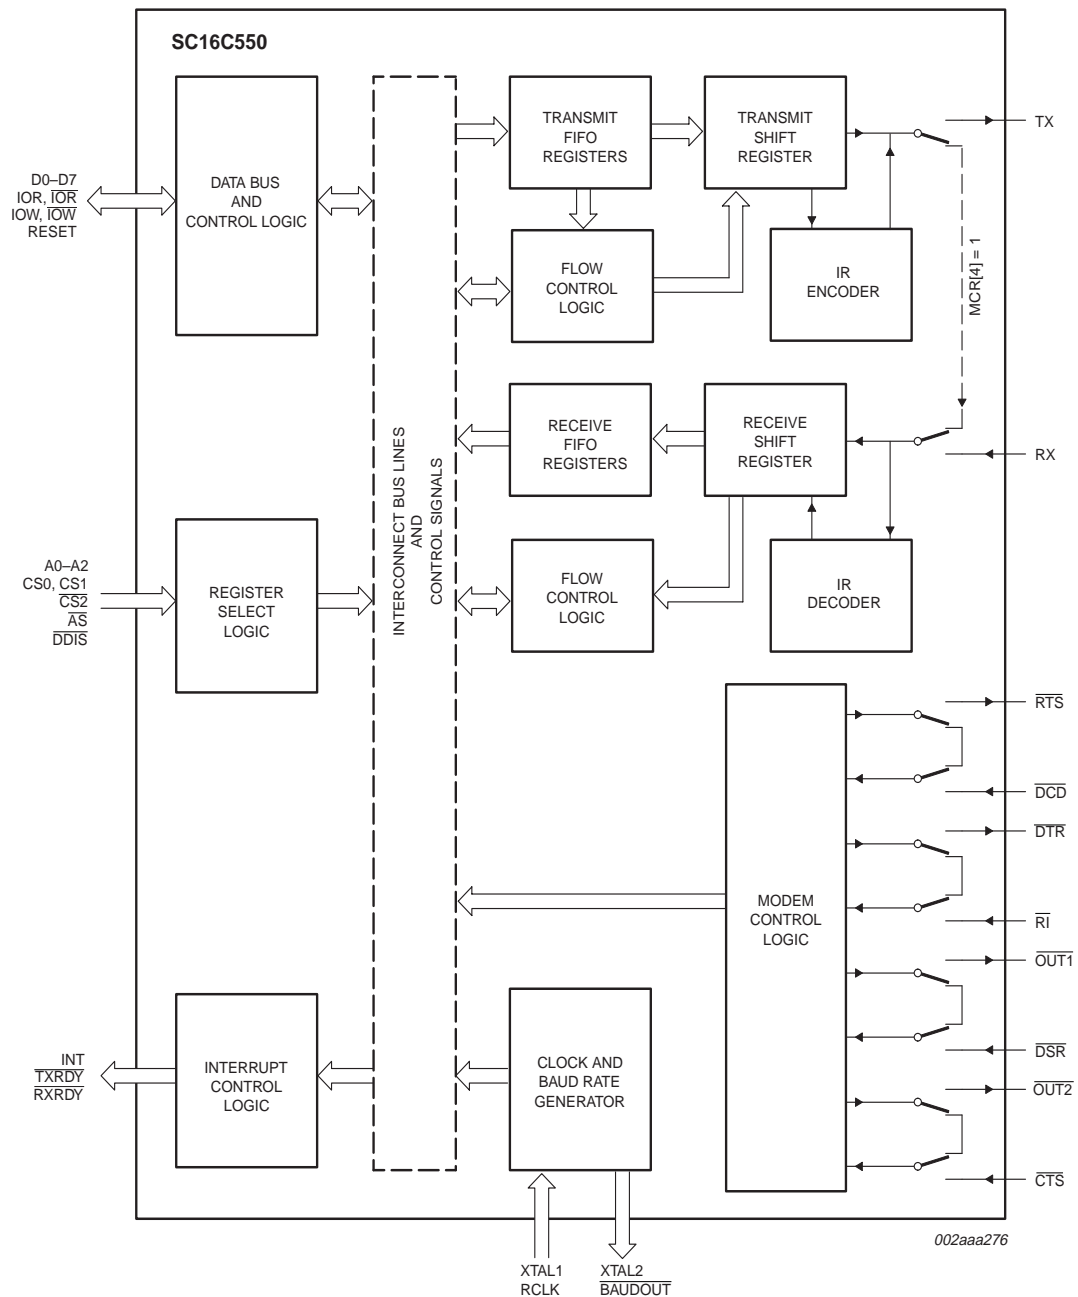

Fig 10. Internal loop-back mode diagram.
The internal loop-back capability allows on-board diagnostics. In the loop-back mode, the normal modem interface pins are disconnected and reconfigured for loop-back internally. MCR[0-3] register bits are used for controlling loop-back diagnostic testing. In the loop-back mode, OUT1 and OUT2 in the MCR register (bits 3-2) control the modem $\overline{\text{RI}}$ and $\overline{\text{DCD}}$ inputs, respectively. MCR signals $\overline{\text{DTR}}$ and $\overline{\text{RTS}}$ (bits 0-1) are used to control the modem $\overline{\text{CTS}}$ and $\overline{\text{DSR}}$ inputs, respectively. The transmitter output (TX) and the receiver input (RX) are disconnected from their associated interface pins, and instead are connected together internally (see Figure 10). The $\overline{\text{CTS}}$, $\overline{\text{DSR}}$, $\overline{\text{DCD}}$, and $\overline{\text{RI}}$ are disconnected from their normal modem control input pins, and instead are connected internally to $\overline{\text{DTR}}$, $\overline{\text{RTS}}$, OUT1 and OUT2. Loop-back test data is entered into the transmit holding register via the user data bus interface, D0-D7. The transmit UART serializes the data and passes the serial data to the receive UART via the internal loop-back connection. The receive UART converts the serial data back into parallel data that is then made available at the user data interface D0-D7. The user optionally compares the received data to the initial transmitted data for verifying error-free operation of the UART TX/RX circuits.